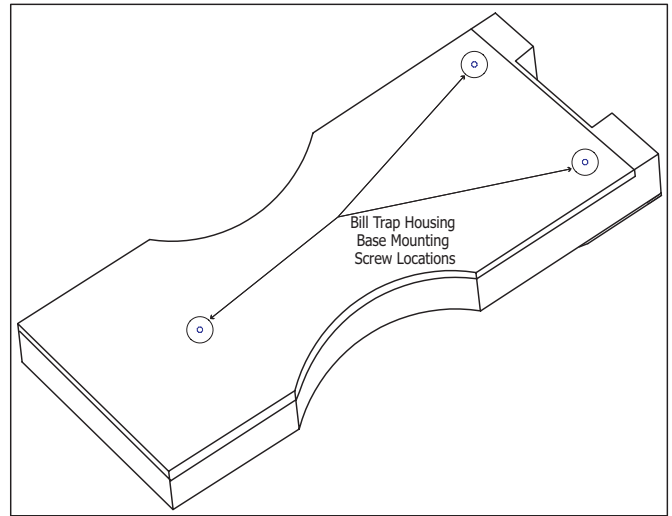
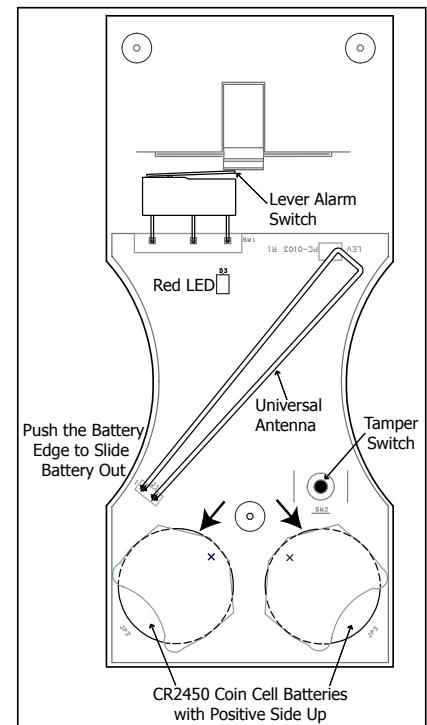

Figure 2: Bill Trap Base and Mounting Screw Locations
Figure 3: Bill Trap Battery Locations
Note: Refer to Figure 2 to remove the 1139-WINT housing base and Figure 3 for the 1139-WINT PCB LED and tamper switch locations.
1. Use a Phillips screwdriver to remove the three screws holding the base and housing together. See Figure 2.
3. If installed, push and slide each old battery out of the holder in the direction of the arrow to remove it. See Figure 3.